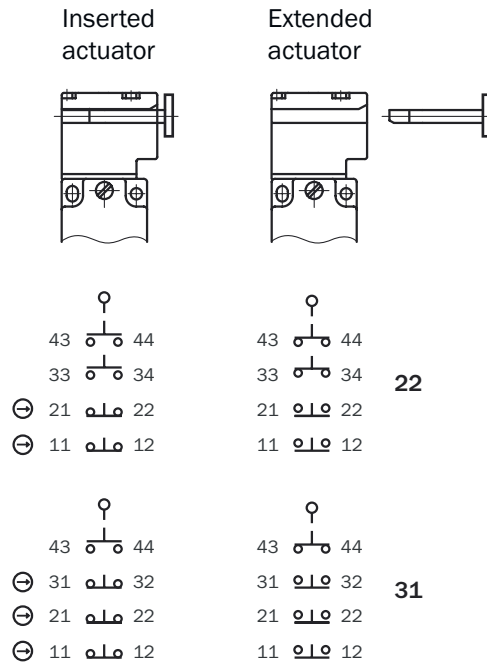

Figure 3: Switching elements and switching functions for variants with M20 cable entry
2. Contact assignments see figure 3, page 9.